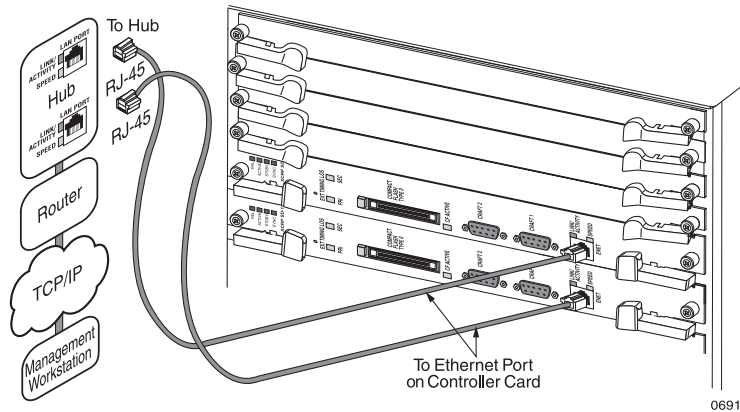

Figure 24 *Connections for a Management Workstation*
2. Connect and route the management access cables, depending on the type of management access you have selected. See Figure 24 for connecting a
- a Management workstation; see Figure 24.
A management workstation is connected to the SmartEdge 400 router using the Ethernet port on the front of a controller card. This type of connection provides access to the SmartEdge OS command-line interface (CLI) after you have configured the port. Figure 24 shows the connections to the Ethernet ports on a pair of controller cards.